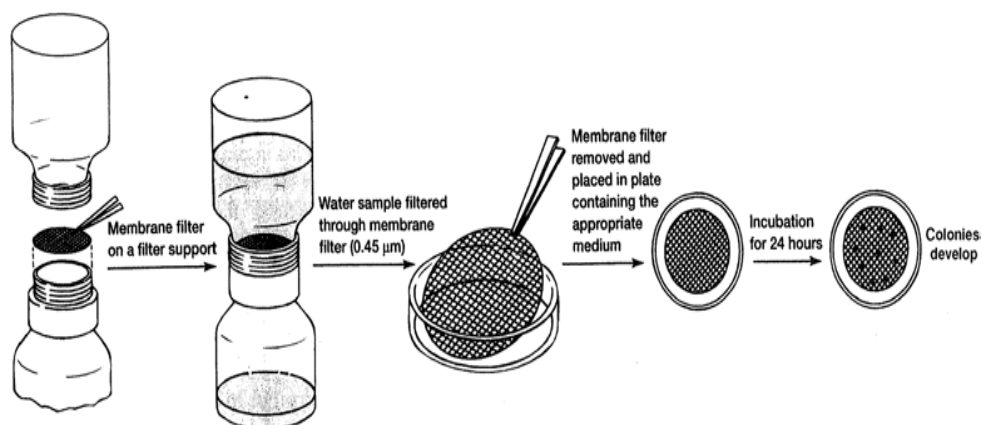

Fig.5 Estimation of cell numbers by membrane filtration
**d) Membrane filtration (MF):** Membranes with a pore size that will retain bacteria (generally 0.45  $\mu\text{m}$ ) but allow water or diluent to pass are used (Fig.5). Following the collection of bacteria upon filtering a given volume, the membrane is placed on an agar plate or an absorbent pad saturated with the culture medium of choice and incubated appropriately. Following growth, the colonies are enumerated. Alternatively, a DMC can be made. In this case, the organisms collected on the membrane are viewed and counted microscopically following appropriate staining, washing, and treatment of the membrane to render it transparent. These methods are especially suited for samples that
contain low numbers of bacteria. The use of fluorescent dyes and epifluorescent microscopes to enumerate bacteria in waters has been employed rather widely since the early 1970s. Cellulose filters were among the earliest used; however, polycarbonate Nucleopore filters offer the advantage of retaining all bacteria on top of the filter. The advantage and disadvantage for membrane filtration is given in **table 1. Fig.5 Estimation of cell numbers by membrane filtration**